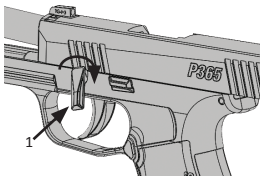

Figure 2
3. Rotate takedown lever clockwise until it stops (Figure 2, Item 1).